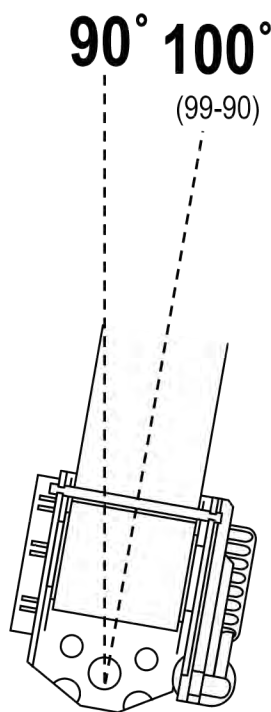

FIGURE 1
- The retractor mounts on a 100° (99-90) angle as shown in Fig.1.